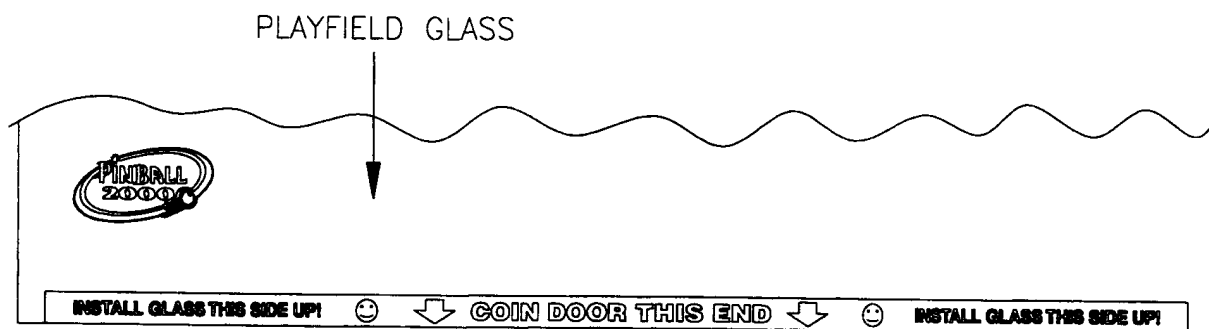

Figure 11
17. Replace the playfield glass. Be sure that the **PINBALL 2000** logo is in the lower left corner and that the 'smiley' faces are visible. See Figure 11 below. Snap the front molding securely into place. Close and lock the coin door.